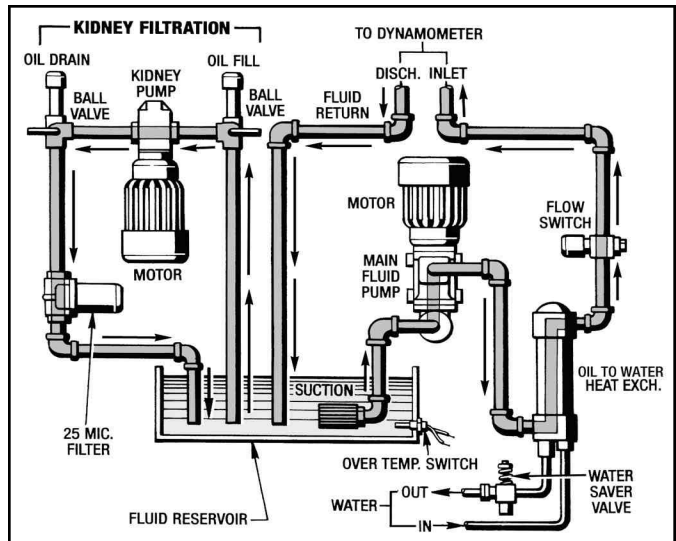

Figure 1.4 - Oil to Water With Kidney Filtration
re-circulate the fluid through a filter. A vacuum gauge or pressure gauge is included to identify a dirty filter. When using the kidney filtration system a ball valve arrangement is used to allow use of the filter system to pump old fluid out of the reservoir and new fluid in. Fluid coming in is pumped through a filter before going into the reservoir. This Kidney Filter System is shown in *Figures 1.4 and 1.6*.
2. Oil to Water with Kidney Filtration. (See *Figure 1.4*)